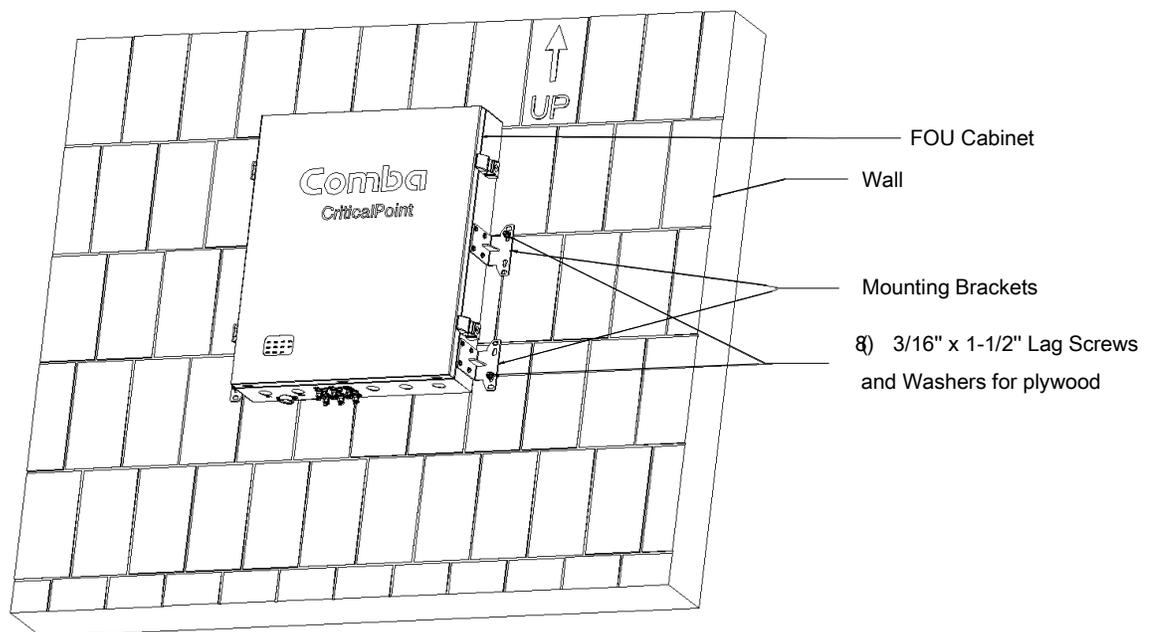

Figure 54: V2 FOU Wall Mounting
- Install the V2 FOU cabinet on the wall as shown in Figure 54. It is recommended to use 3/16" x 1-1/2" screws and fender washers when mounting to 3/4" fire treated plywood. If mounting to a concrete wall, DIN Rails, or any other materials, refer to the local building code.